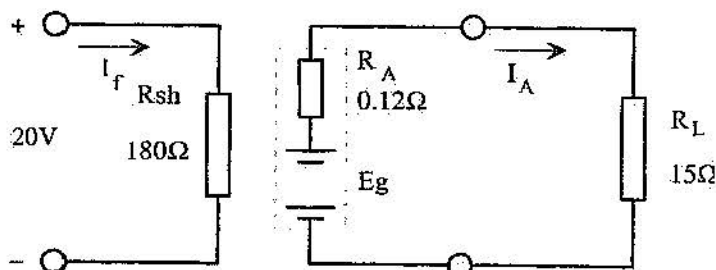

Figure 1
6. The generator shown in figure 1 has a machine constant of 10 , and effective flux of 25mWb and is driven at 1000rpm .